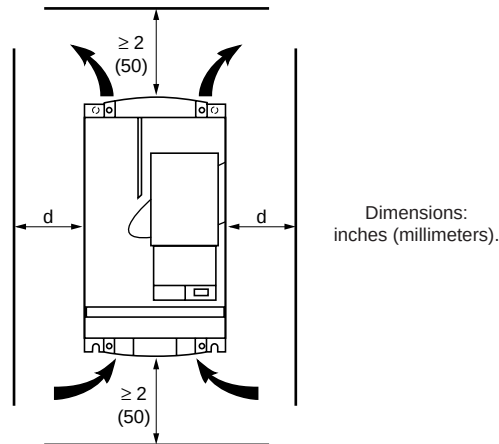

Figure 3: Minimum Clearances
- Figure 3 shows the minimum clearances required around each drive controller for unobstructed air flow. These clearances should not be used as minimum enclosure size for proper thermal dissipation.
Mounting and Temperature Conditions (Refer to Figure 3)
Refer to Fig. 3